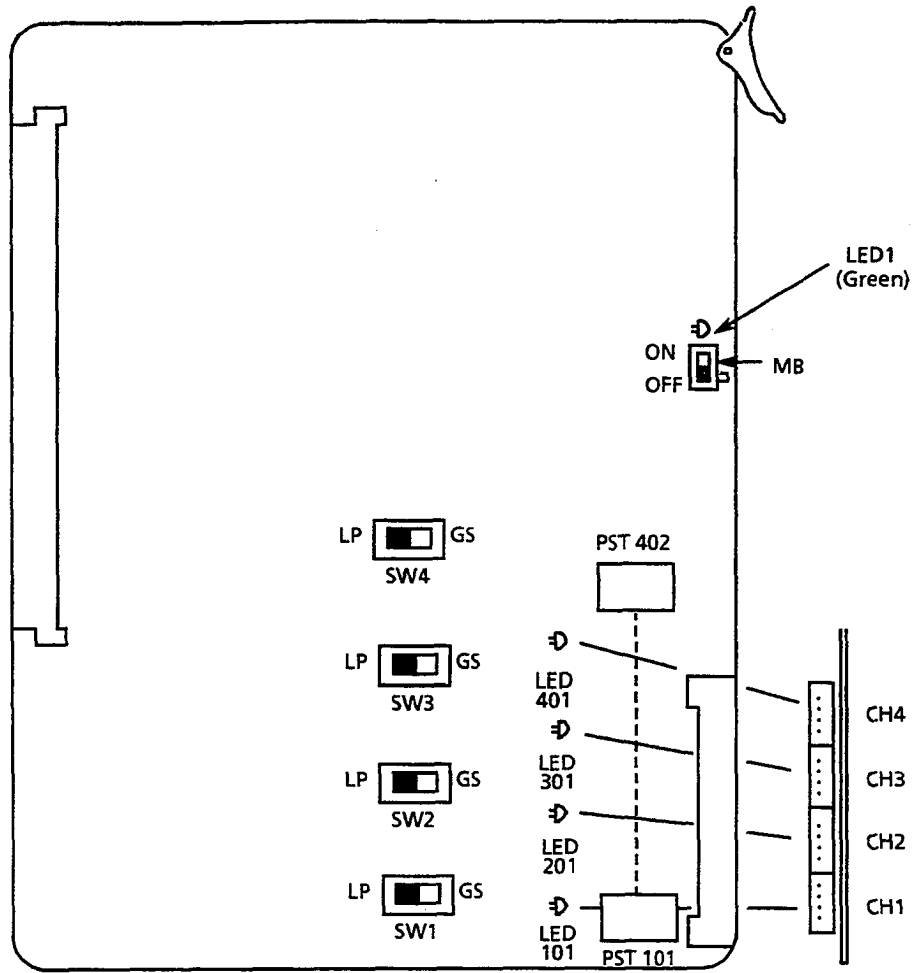

Figure 3-75 COI-F(4)-20 KTU Switch Layout
The COI-F(4)-20 KTU contains four switches (designated as SW1 ~ SW4) for the selection of trunk type (Loop or Ground Start). Each switch is associated with an individual circuit. Red LEDs (101~401) indicate the status of the circuit. Refer to Figure 3-75 - COI-F(4)-(20) KTU Switch Layout.